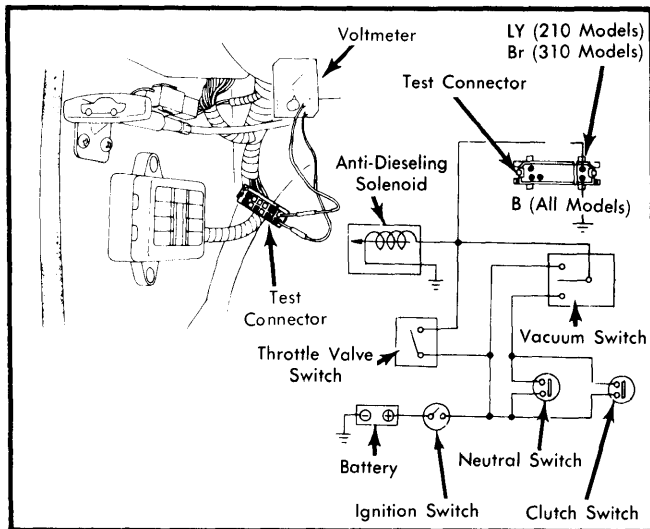

Fig. 3 Fuel Shut-Off System Test (210 & 310 Models)
3) On 210 and 310 models, connect a voltmeter to test connector terminals specified in Fig. 3. On 510 and pickup models, connect a voltmeter to harness side of solenoid connector and to ground. Connect solenoid side of connector directly to positive post of battery.